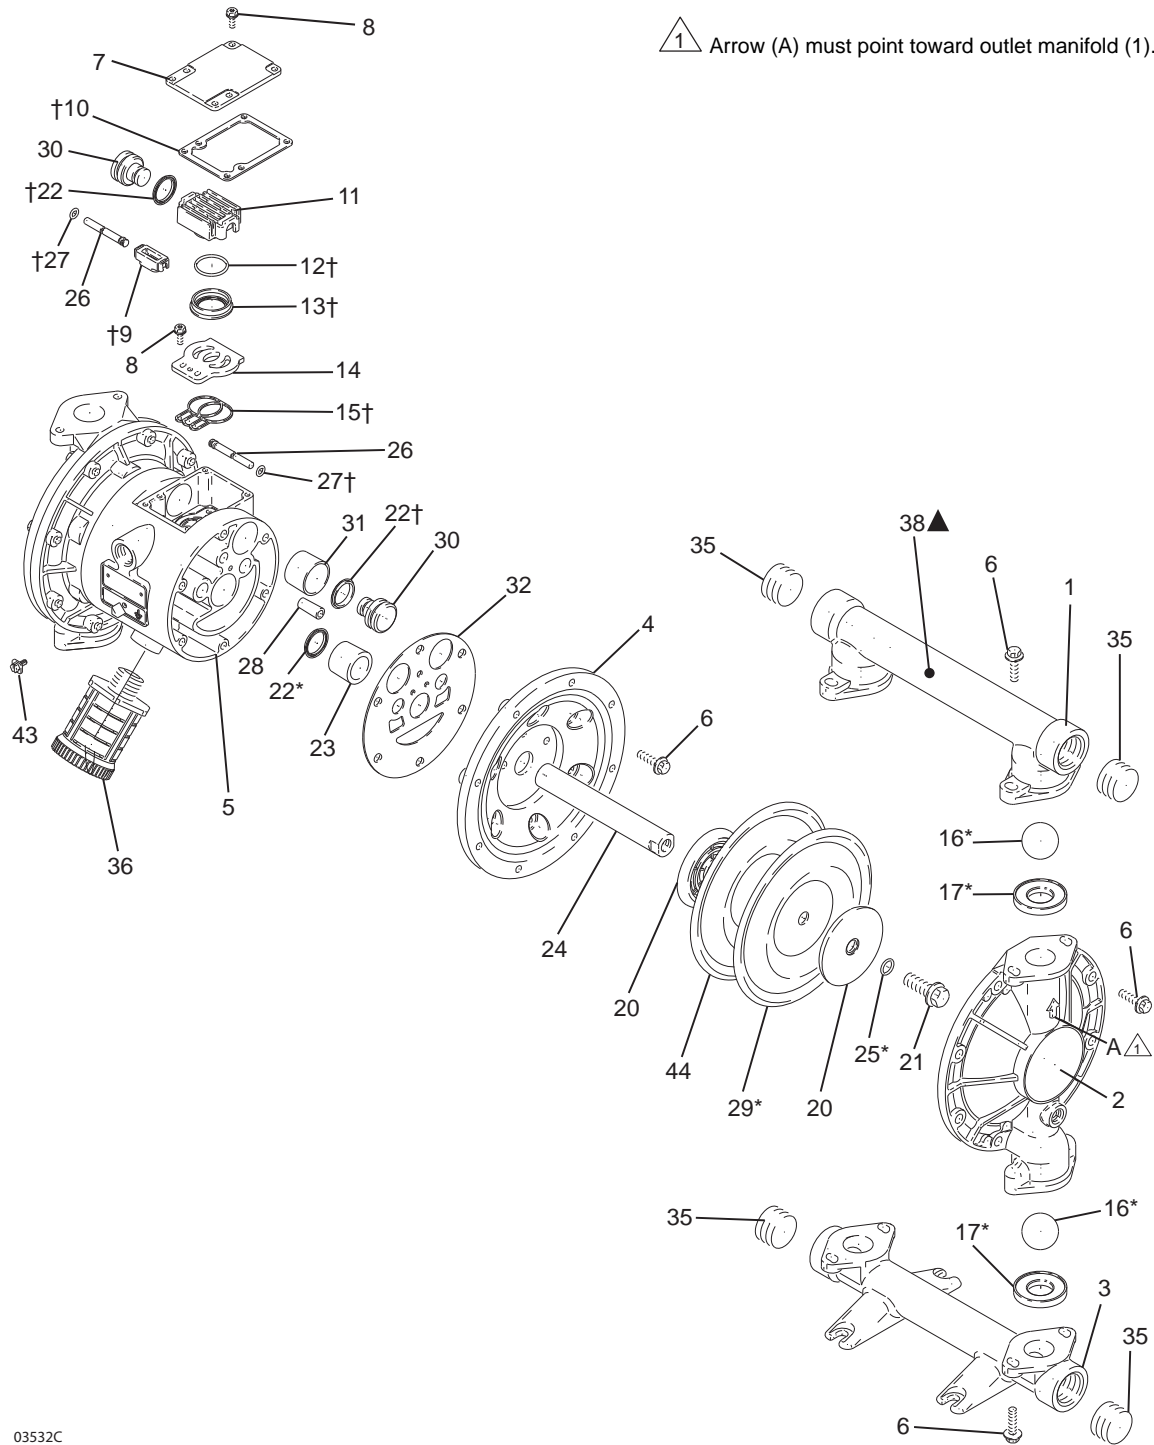

Fig. 14
3. Using a 10 mm socket wrench, remove the four bolts (6) holding the outlet manifold (1) to the fluid covers (2). See **Fig. 14**.
4. Remove the seats (17) and balls (16) from the manifold.
5. Turn the pump over and remove the inlet manifold (3). Remove the seats (17) and balls (16) from the fluid covers (2).
2. Reassemble in the reverse order, following all notes in **Fig. 14**. Be sure the ball checks are assembled exactly as shown. The arrows (A) on the fluid covers (2) must point toward the outlet manifold (1).